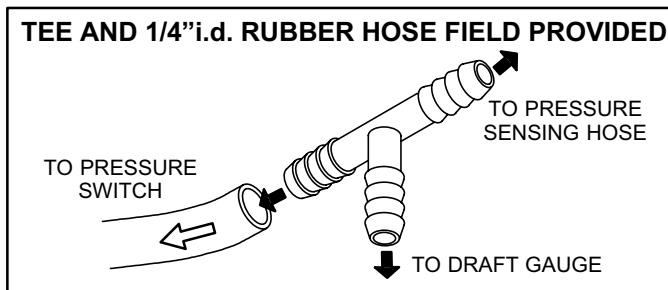

FIGURE 32
- 2 - Disconnect hose from front of pressure switch and install tee as shown in figure 32. Repeat sequence for hose connected to back of switch.